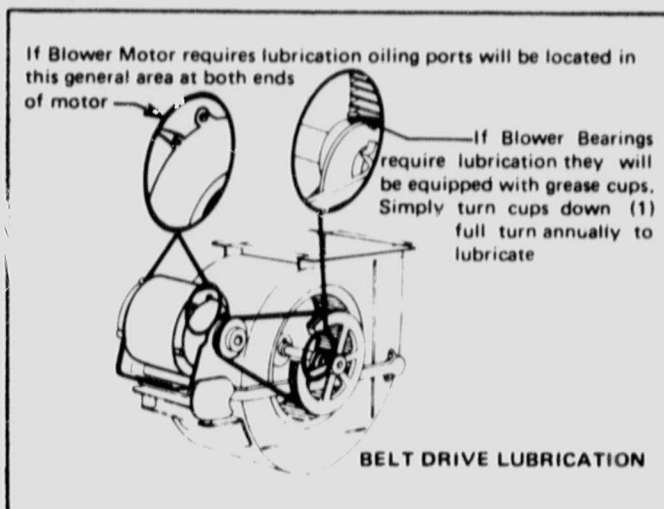

FIGURE 9
- b - *Belt Drive Motors With Oiling Ports* - Add a few drops of SAE No. 10 non-detergent oil yearly. Refer to Figure 9.